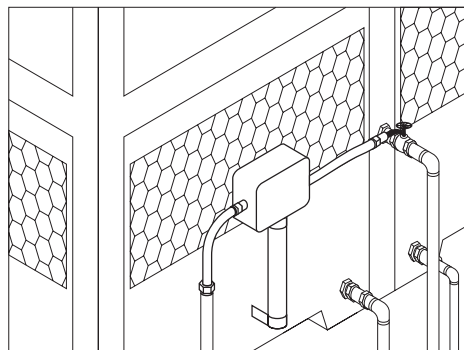
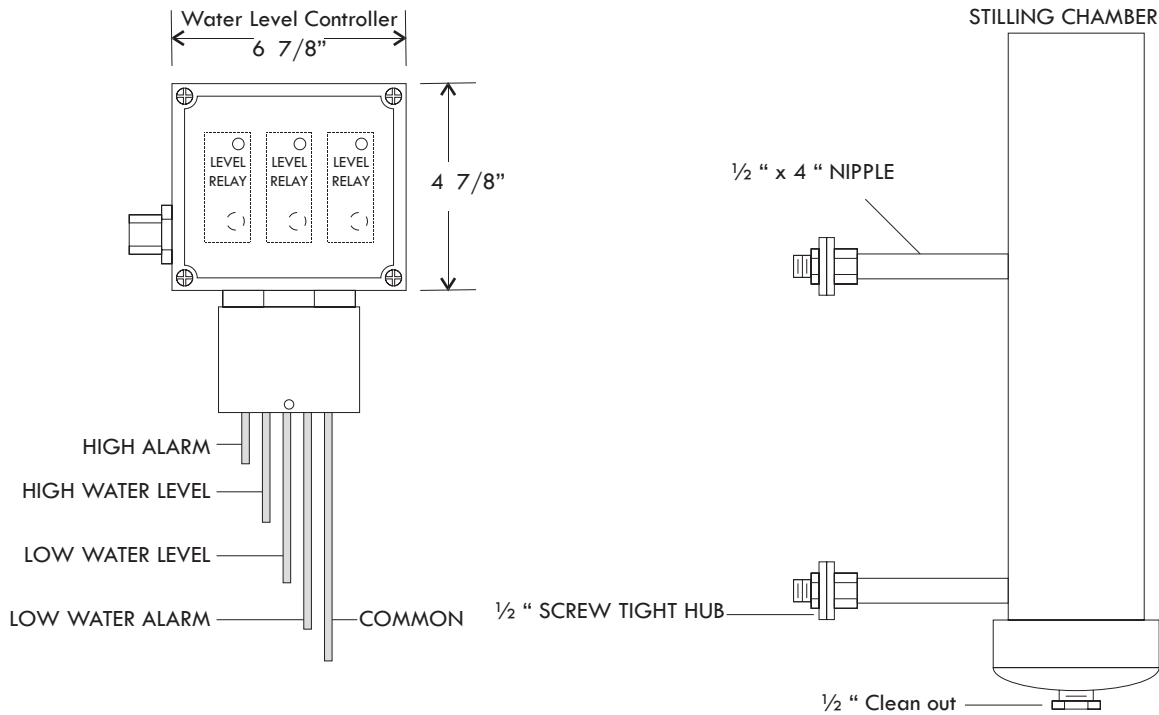

Figure A-56: Water level control system
Figure A-57: Water level control parts
- Use a suitable wire from an overload protected disconnect device, connect to the “L” terminals of the panel contactor, located on the left side of contactor in panel (see Figure A-56).
Electric water level control system offered by REYMSA includes water level controller, stilling chamber (standpipe) and solenoid valve for water make up (see Figure A-56 and Figure A-57).